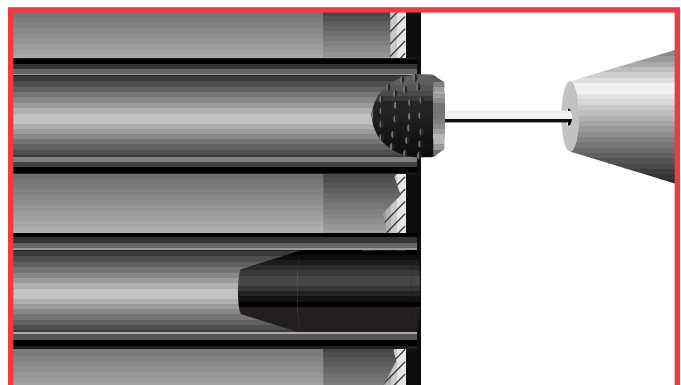

Figure 39. Smooth ends of tubes by grinding.
- To provide a clean finish** in the tubes, allowing an easy flow of liquid, smooth the opening of the tubes to remove excess epoxy. Use a conical grinding bit for best results. (See figure 39)